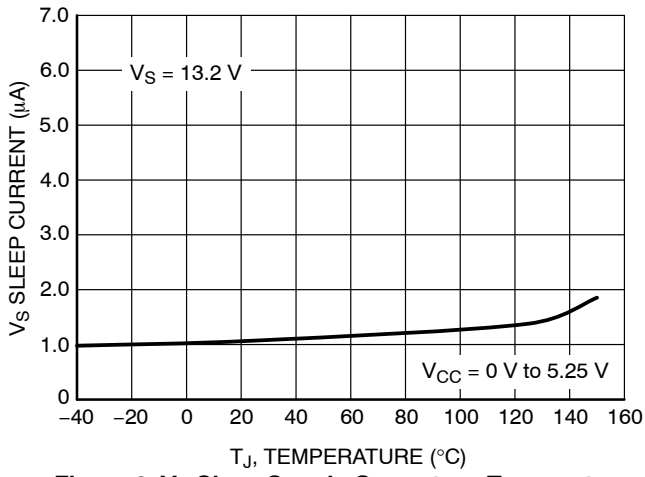

Figure 6.  $V_S$  Sleep Supply Current vs. Temperature
5. For temperatures above  $85^{\circ}\text{C}$ , refer to Figure 6.